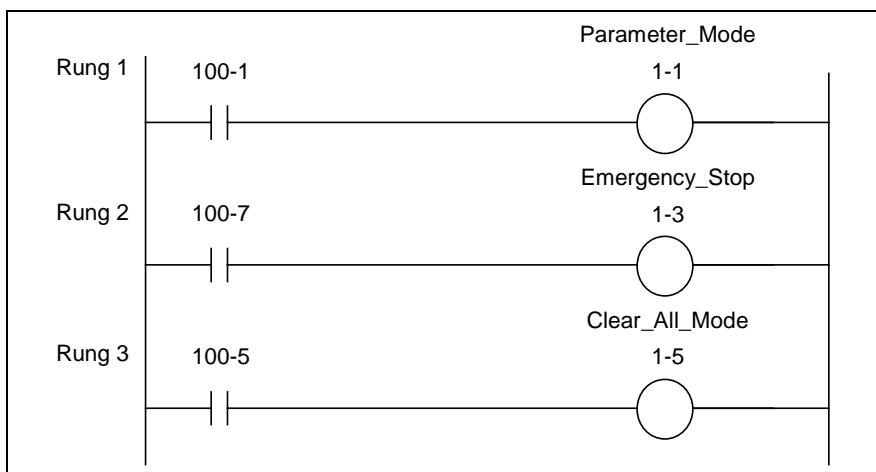
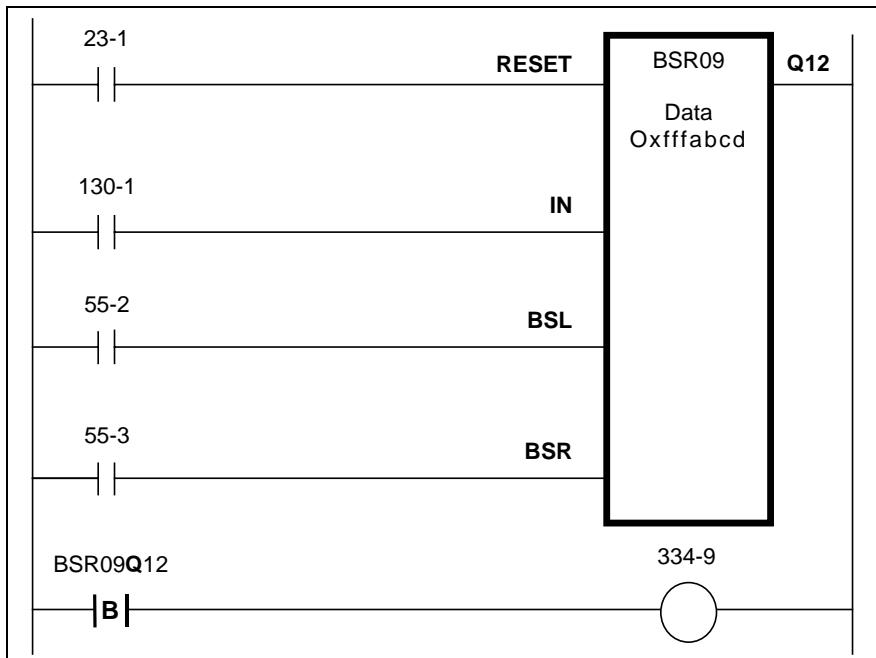
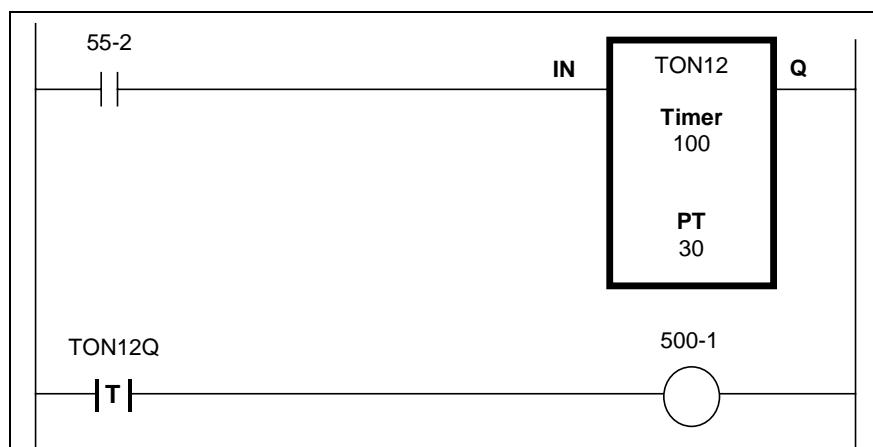
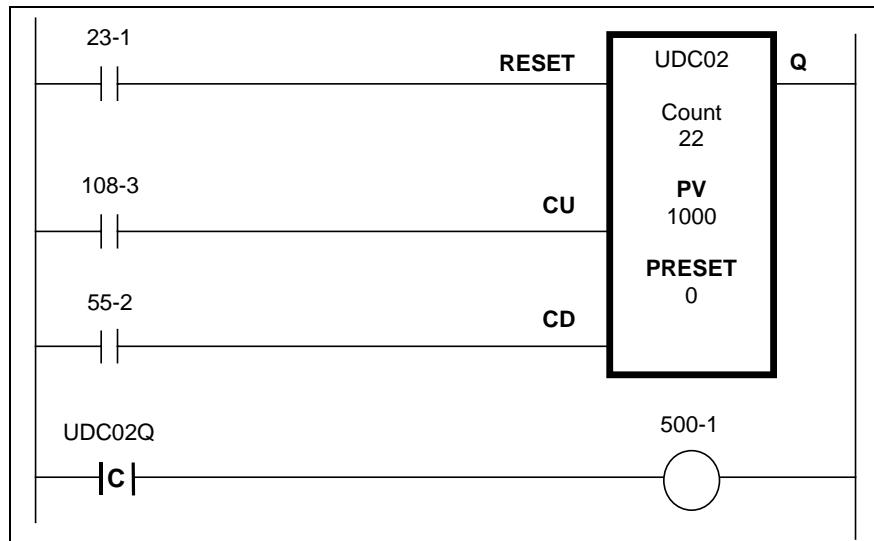

Fig. 3-17: Coil used as a Simple Output Function
Fig. 3-20: Binary Shift Register Example
Fig. 3-21: Timer Example
Fig. 3-22: Counter Example
Fig. 3-17 shows an example of a coil being used as a simple output function. Refer to Fig. 3-20, Fig. 3-21 and Fig. 3-22 for examples of a normal coil function complementing a more complex function.
In the counter example in Fig. 3-22, the **Count** value increments by 1 every time contact 108-3 is closed and decrements by 1 every time contact 55-2 is closed. Once the **Count** value is equal to or greater than the **PV** value, contact UDC02Q will close energizing relay coil 500-1. The following table describes a counter's five inputs (RESET, CU, CD, PV, PRESET) and one output contact (Q).